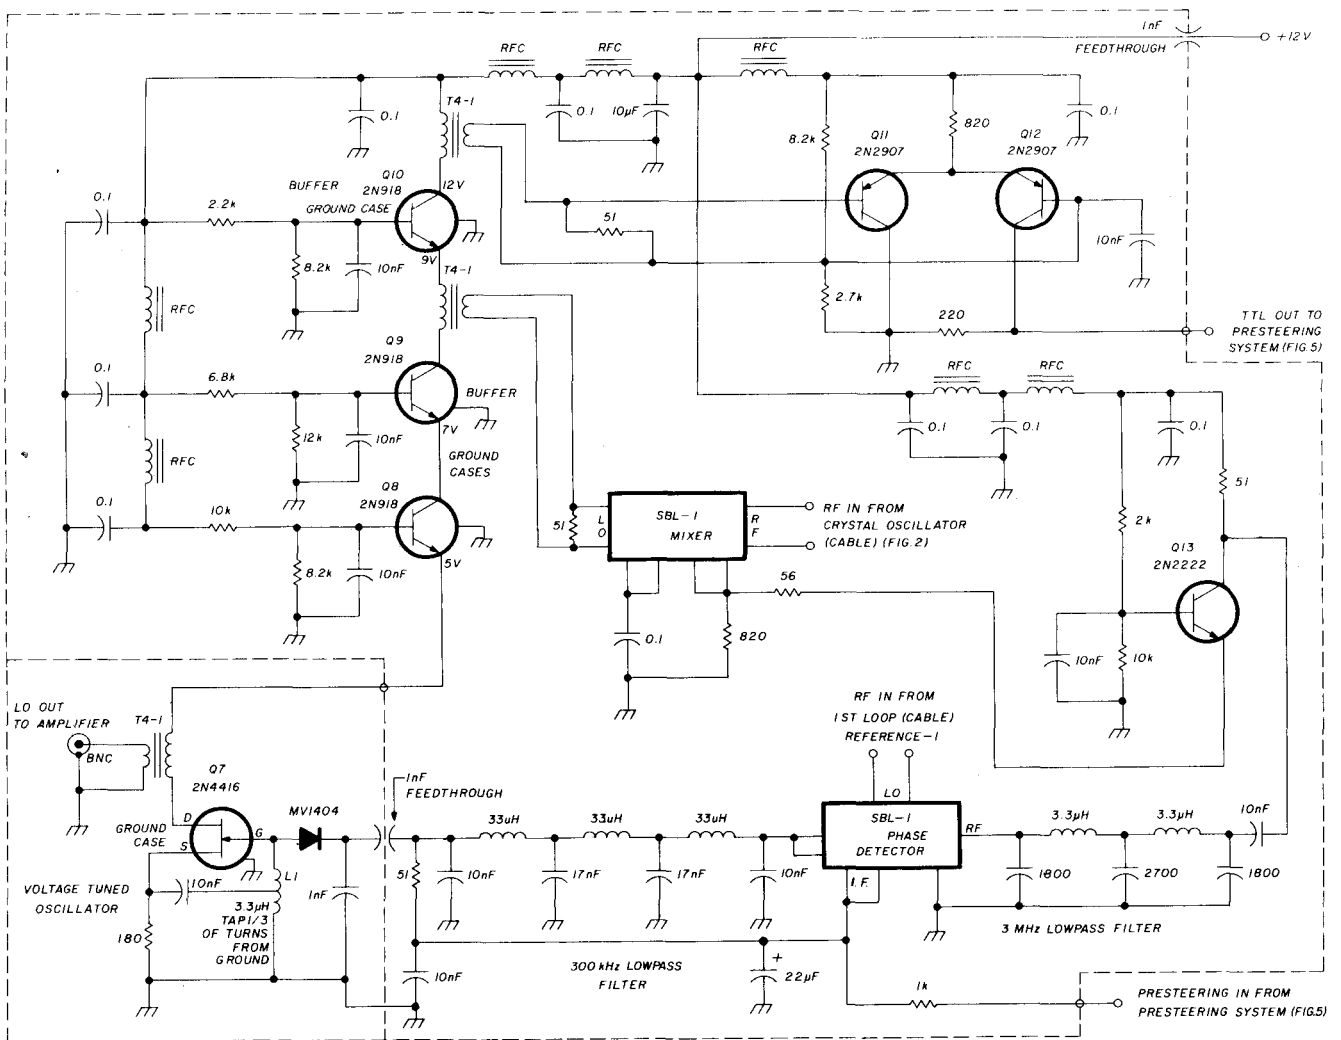

fig. 4. Output loop schematic.
**Output loop (fig. 4).** With care and good layout, the loop of fig. 4 will suppress the reference-frequency sidebands by at least 100 dB and reproduce the superb phase-noise performance of the first loop within about 6 dB.
The phase detector in fig. 4 yields its best performance when the two input signals are more than 30 degrees out of phase. Phase-frequency discriminator U19 in the presteeing system requires that the two signals be *exactly* in phase. If both are operating from the same set of input signals, they work against each other, producing chaos. This may be eliminated by driving U19 from a separate phase-shifted output of the first loop. Thus, while U19 sees a zero phase difference, the SLB-1 mixer sees its inputs shifted by at least 60 degrees, resulting in stable operation. U20 delivers the required shifted output.